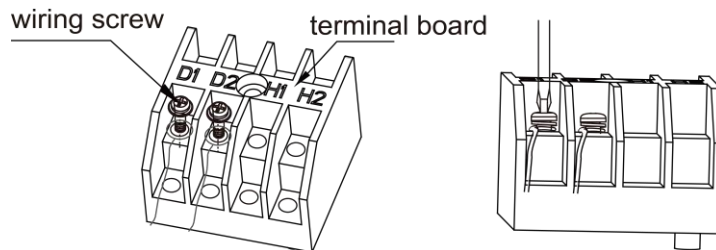
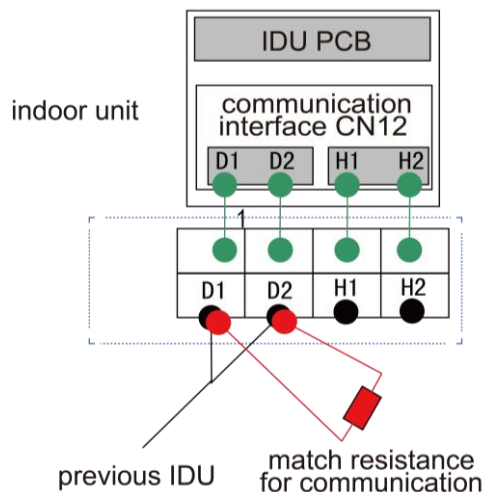

Fig 5.3.1
Fig 5.3.2
- (1) Detach the electric box lid.
- (2) Lead the Communication cable through the wiring holes.
- (3) Connect the communication wire to terminal D1 and D2 of indoor 4-bit wiring board, as shown in Fig. 5.3.1.
- (4) Secure the communication cable with clamp of electric box.
- (5) For more reliable communication, be sure to connect the terminal resistor to the most downstream IDU of the communication bus (terminal D1 and D2), as shown in Fig. 5.3.2, terminal resistor is provided with each ODU.